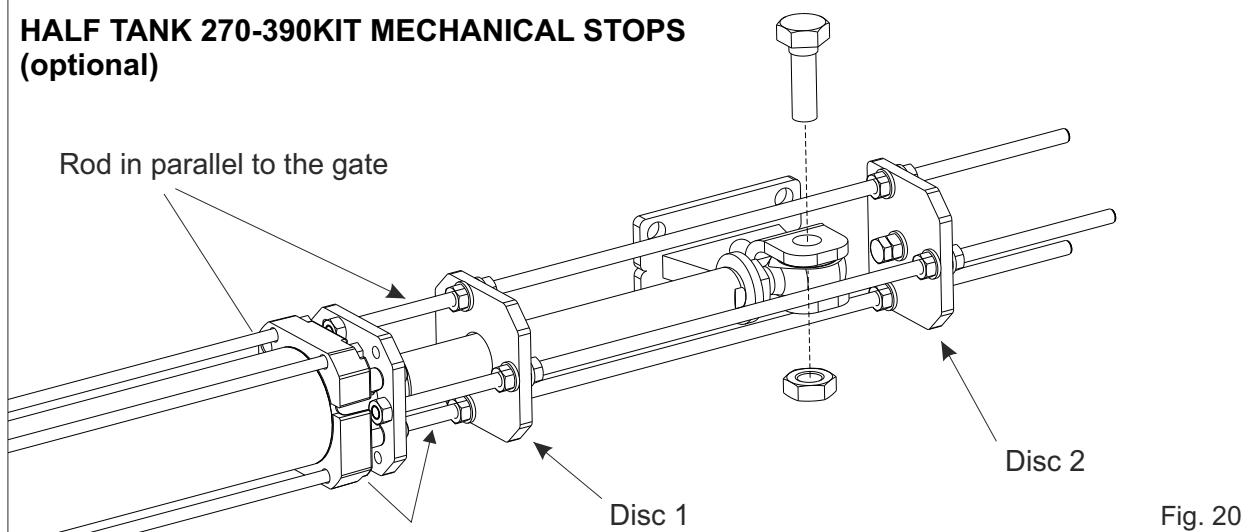

Fig. 20
- 3) Put the limit switch stops on the front flange of the unit with the two rods (of the three which are present on the stop) which are in parallel to the gate (Fig. 20)